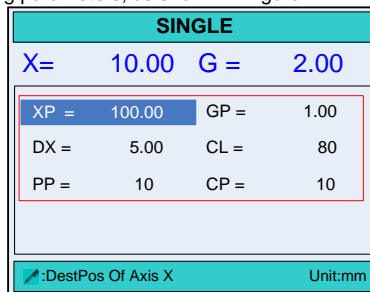

Figure 2-1 Single-Step example configuration
- Step 2** According to the analysis, press the arrow keys and number keys to modify the corresponding parameters, as shown in Figure 2-1.